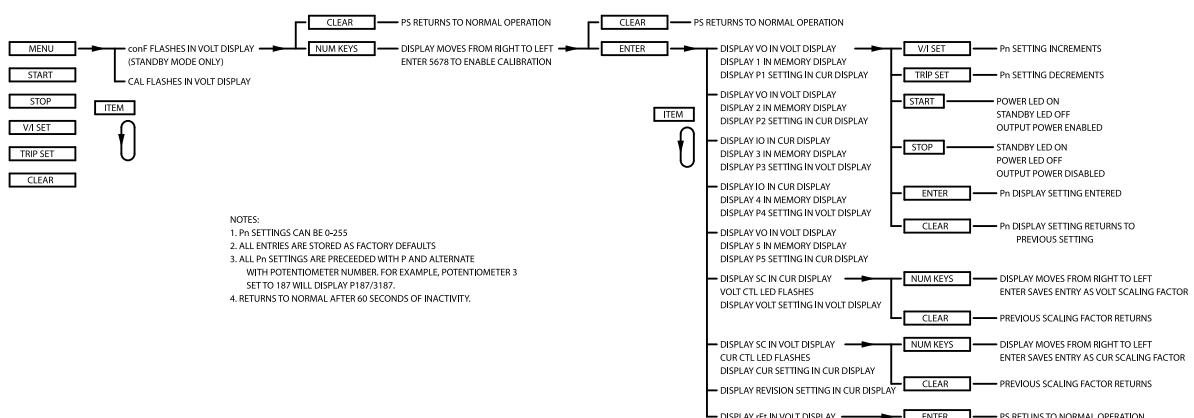

Figure 3.23. Front panel calibration menu
*Figure 3.23, "Front panel calibration menu"* illustrates how to utilize the calibration commands using the front panel. Calibration commands allow calibration of five digital potentiometers, display of the firmware and hardware revisions, and reset the digital potentiometers to the factory calibration